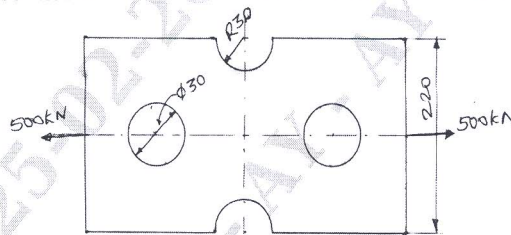

Fig.Q3(b)
b. A bar of rectangular cross section is subjected to an axial pull of 500 kN. Calculate its thickness if the allowable tensile stress in the bar is 200 MPa. [Refer Fig.Q3(b)]